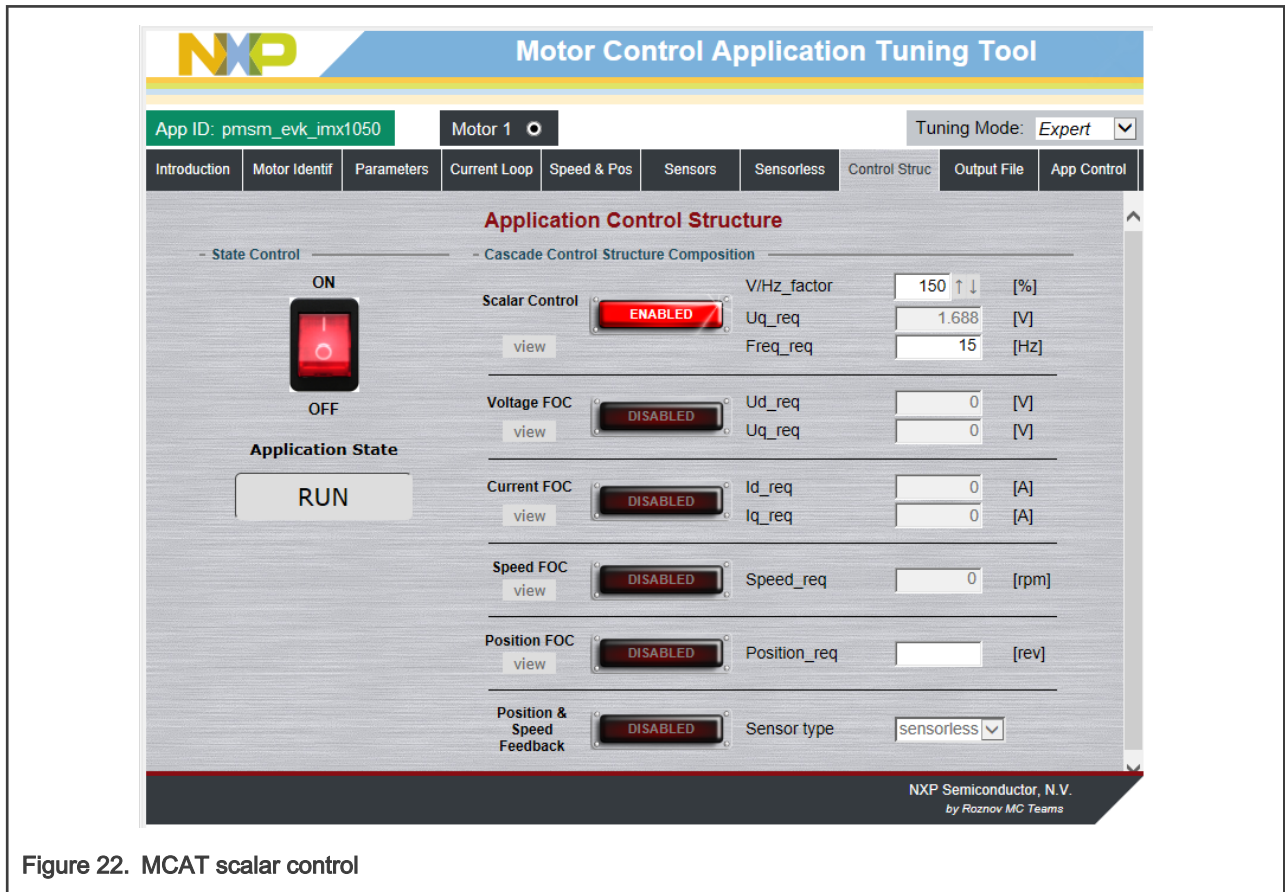

Figure 22. MCAT scalar control
3. Set the required frequency value in the “Freq_req” field; for example, 15 Hz in the “Scalar Control” section. The motor starts running (see Figure 22).